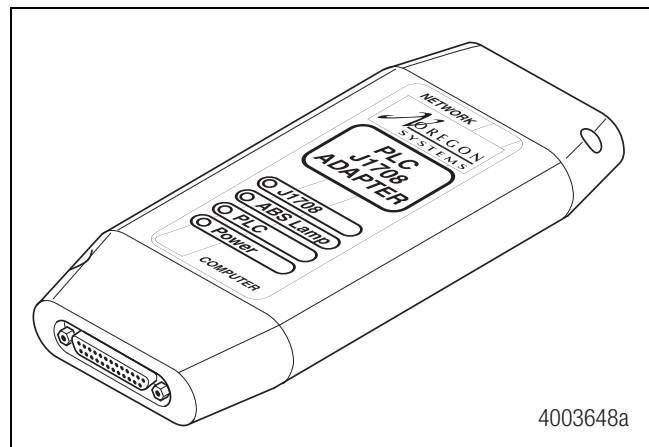

Figure 5.3
- Use as a tractor/trailer tester to ensure that PLC is functioning correctly. Figure 5.3.